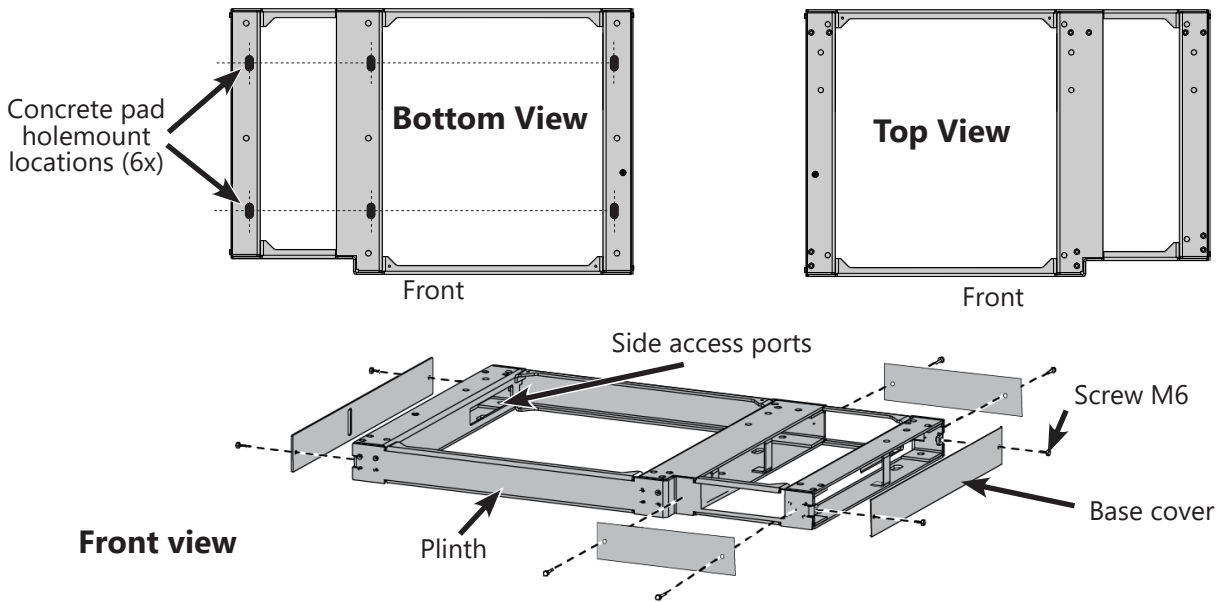

Figure 22. Plinth Mounting Footprint, Bottom and Top Views
- For cabinet with plinth, see Figure 22 to mount cabinet to pad.